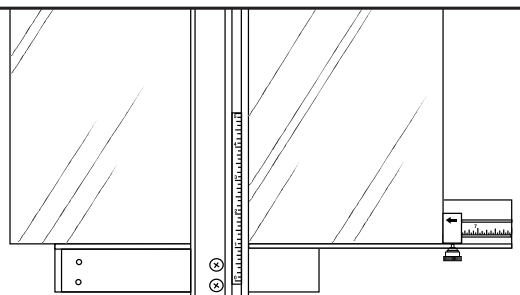

Fig. 44
5. Squeeze a drop of cutting oil onto glass wheel (**Fig. 44**).